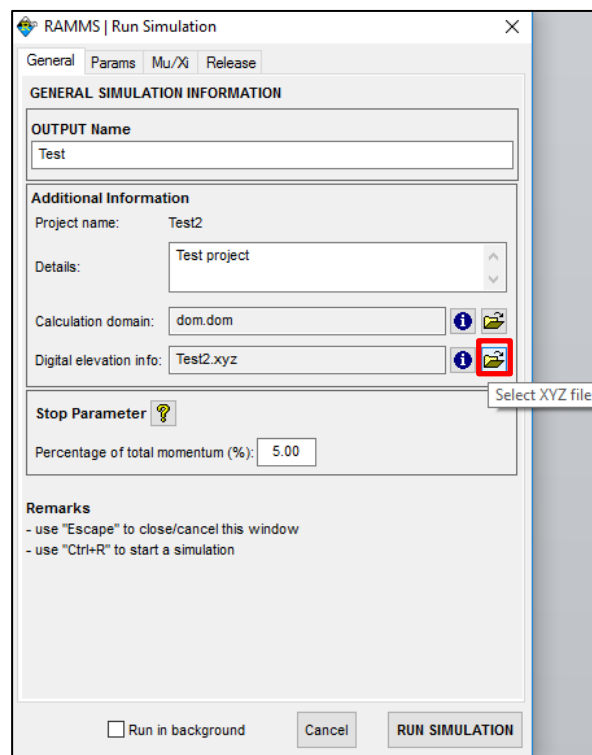

Figure 4.19: Select new xyz-file with dam information.
- The new xyz-file, containing the deposition information, is created. To run a simulation based on this new xyz-file, just choose the xyz-file in the Run Simulation window, see Figure 4.19.